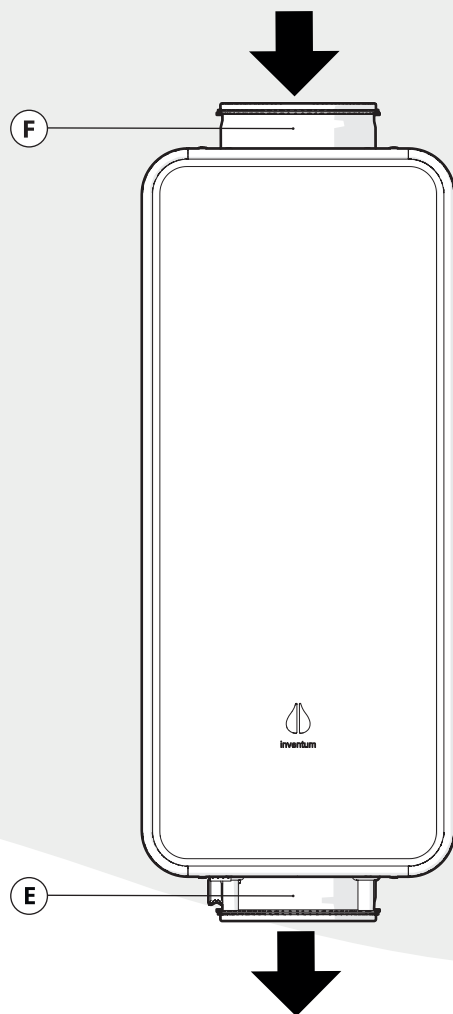

Figure 13 Connection points and directions of the GreenComfort.
1. Connect the ventilation air supply duct to the opening for outgoing air from the GreenComfort (Figure 13 – E).
2. Connect the roof terminal to the opening for incoming outside air to the GreenComfort (figure 13 – F).
- Plug the GreenComfort into the mains socket (Figure 13 – **D**).